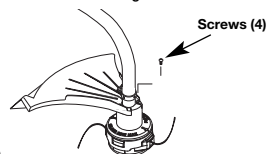

Fig. 2
2. Push the cutting attachment shield down to the top of the cutting attachment assembly and then rotate the cutting attachment shield until the screw holes align and the guard fits into the recessed pocket (Fig. 2).
3. Install the screws with a Phillips screwdriver (Fig. 2).